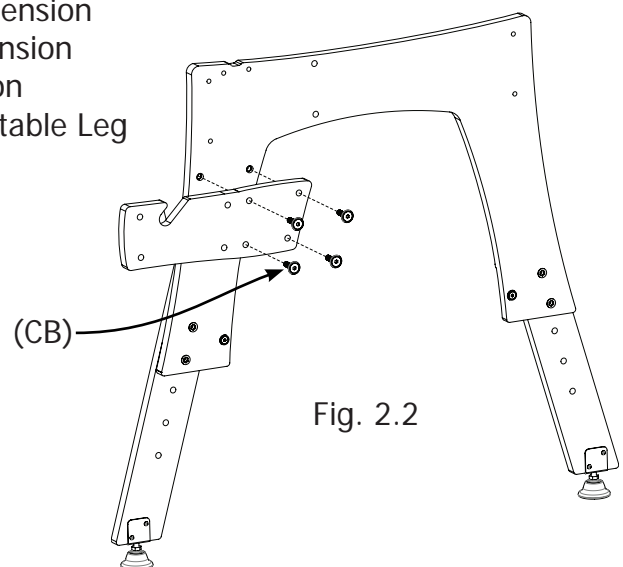

Fig. 2.2
Step 2.2: Secure a Frame End Extension to each frame end using (CB) M8 x 30mm Connector Bolts as shown in Fig. 2.2